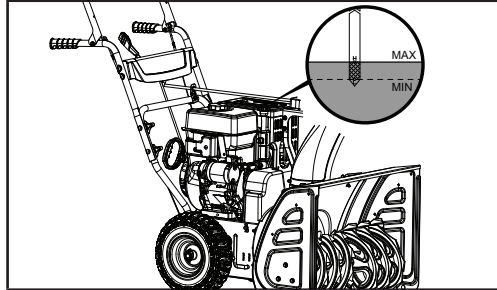

Figure 17
4. With the engine in a level position, fill to the upper limit mark on the dipstick with the recommended oil (0W-30) (Fig. 17).